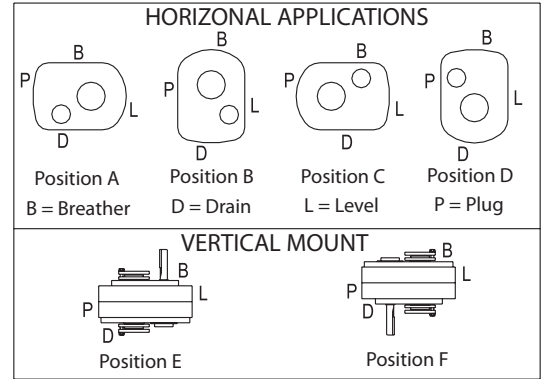

Figure 3 - Mounting Positions
- Determine the running positions of the reducer. (See Fig. 3) Note that the reducer is supplied with 6 plugs; 4 around the sides for horizontal installations and 1 on each face for vertical installations. These plugs must be arranged relative to the running positions as follows:
Vertical Installations - Install the filter/ventilation plug in the hole provided in the upper face of the reducer housing as installed. If space is restricted on the upper face, install the vent in the highest hole on the side of the reducer per Figure 3 using the optional vertical vent kit. Install a plug in the hole in the bottom face of the reducer. Do not use this hole for the magnetic drain plug. Install the magnetic drain plug in the lowest hole on the sides of the reducer. Of the remaining holes on the sides of the reducer, use the plug in the upper housing half for the minimum oil level plug.
The running position of the reducer in a horizontal application is not limited to the four positions shown in Fig. 3. However, if running position is over 20° in position “B” & “D” or 5° in position “A” & “C”, either way from sketches, the oil level plug cannot be used safely to check the oil level, unless the reducer is swung to within 20° for position “A” & “C” or 5° for position “B” & “D” of the positions shown in Fig. 3. Because of the many possible positions of the reducer, it may be necessary or desirable to make special adaptations using the lubrication filling holes furnished along with other standard pipe fittings, stand pipes and oil level gauges as required.
- Use lifting tab to hoist screw conveyor drive into position. Slide shaft into screw and adapter over trough end studs. Only one set of adapter holes will fit over the trough end studs. If the mounted position of the screw conveyor drive varies more than 15° from any of the four horizontal mounting positions shown in Fig. 3, an incorrect set of holes has been selected for coupling adapter to reducer. This can be corrected by removing adapter screws and rotating the reducer to its proper position. Reinstall and tighten adapter screws to torque specified in Table 5. Install lockwashers and tighten nuts on trough end studs. Attach drive shaft to screw.
① Oil quantity is approximate. Service with lubricant until oil runs out of oil level hole.
② Refer to Figure 3 for mounting positions.
③ US measure: 1 quart = 32 fluid ounces = .94646 liters.
④ Conversion from quarts rounded values.
⑤ Below 15 RPM output speed, oil level must be adjusted to reach the highest oil level plug. If reducer position is to vary from those shown in Figure 3, either more or less oil may be required. Consult Dodge.